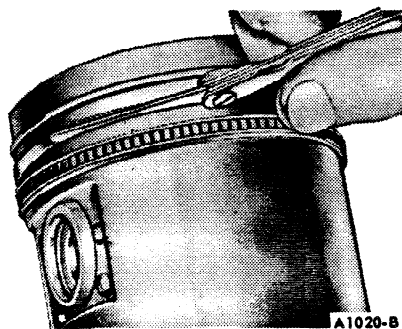

FIG. 27 Checking Piston Ring Side Clearance
6. Check the ring side clearance of the compression rings with a feeler gauge inserted between the ring and its lower land (Figure 27). The gauge should slide freely around the entire ring circumference without binding. Any wear that occurs will form a step at the inner portion of the lower land. If the lower lands have high steps, the piston should be replaced.